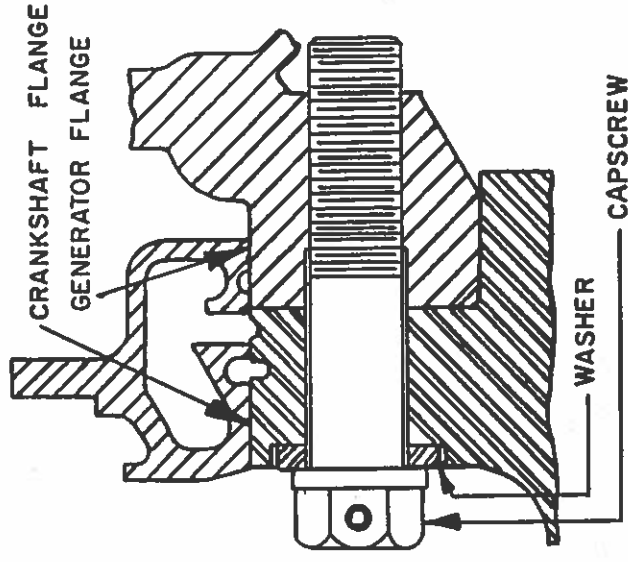

FIG. 12 - GENERATOR TO CRANKSHAFT CONNECTION
3. Remove generator coupling bolts through engine base, Fig. 12.